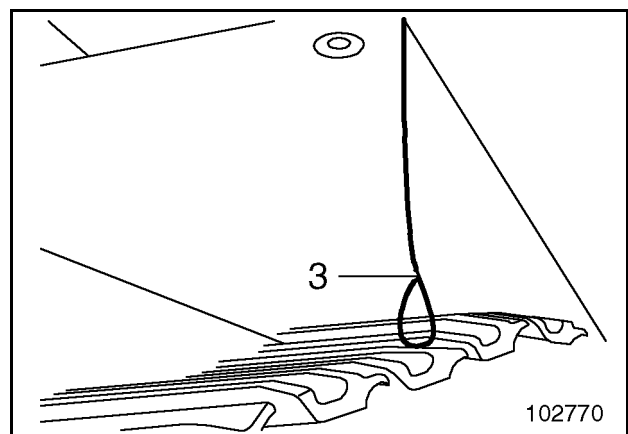

Fig. 2-25:
- on the righthand side at the counterweight. This latter one is to operate with the rope (3, Fig. 2-25:).
The switching pin of the rope operated switch (Fig. 2-25:) must be pushed in.